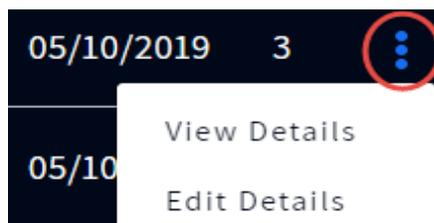

Fig. 1.17
**Drop-down and Pop-out Lists:** The down-arrow  $\nabla$  in a field or next to the field indicates there are more options available to choose from. The More icon (ellipsis icon: the three vertical blue dots in Fig. 1.17) also indicates there are more options to choose from. Tap on the arrow or More icon to open the list and select from the available options.